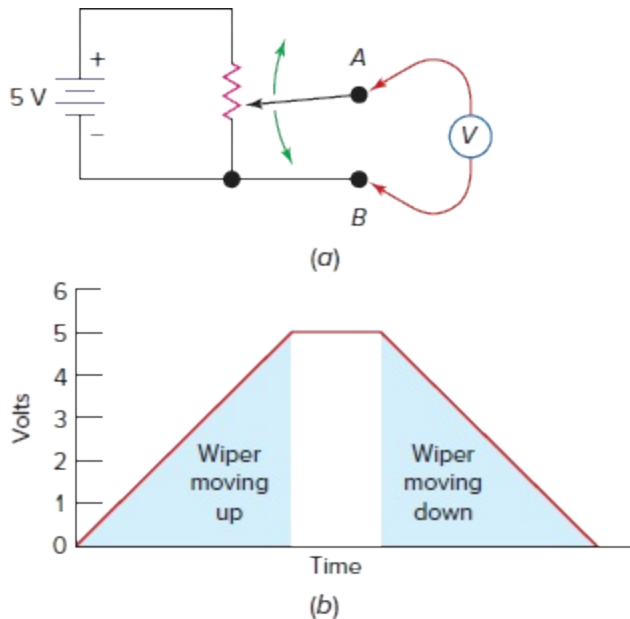

Fig. 1-1 (a) Analog output from a potentiometer. (b) Analog signal waveform.
In your experience with electricity and electronics you have probably used analog circuits. The circuit in Fig. 1-1(a) puts out an *analog signal* or voltage. As the wiper on the potentiometer is moved upward, the voltage from points A to B *gradually* increases. When the wiper is moved downward, the voltage gradually decreases from 5 to 0 volts (V). The waveform diagram in Fig. 1-1(b) is a graph of the analog output. On the left side the voltage from A to B is gradually increasing to 5 V; on the right side the voltage is gradually decreasing to 0 V. By stopping the potentiometer wiper at any midpoint, we can get an output voltage anywhere between 0 and 5 V. An analog device, then, is one that has a signal which *varies continuously* in step with the input.
Both analog and digital signals are represented in graph form in Figs. 1-1 and 1-2. A *signal* can be defined as useful information transmitted within, to, or from electronic circuits. Signals are commonly represented as a voltage varying with time, as they are in Figs. 1-1 and 1-2. However, a signal could be an electric current that either varies continuously (analog) or has an on-off (HIGH-LOW) characteristic (digital). Within most digital circuits, it is customary to represent signals in the voltage versus time format. When digital circuits are interfaced with nondigital devices such as lamps and motors, then the signal can be thought of as current versus time.